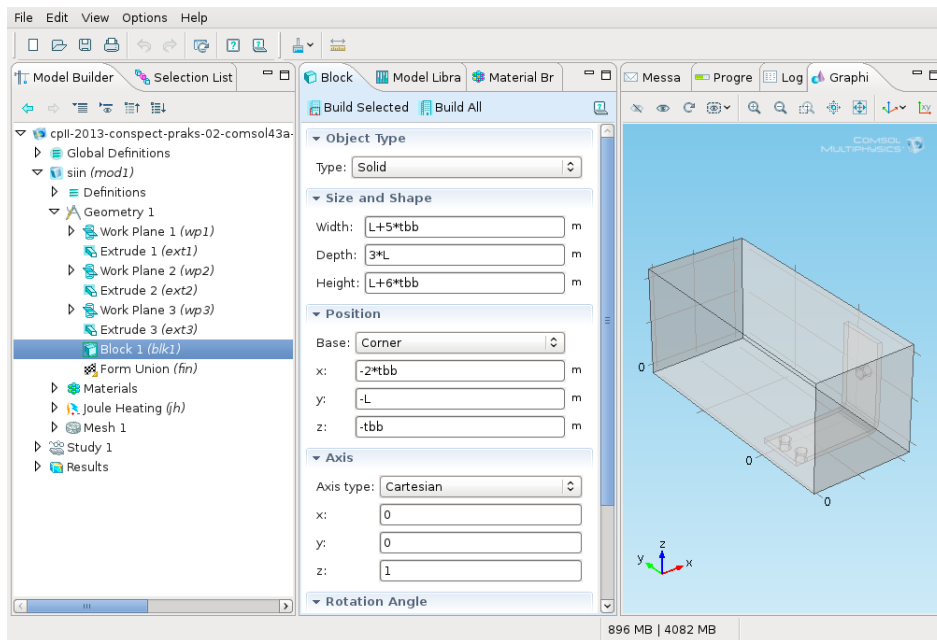

Figure 13: Adding the air box.
- 3 The parameters of the **Block 1** (Fig. 13):